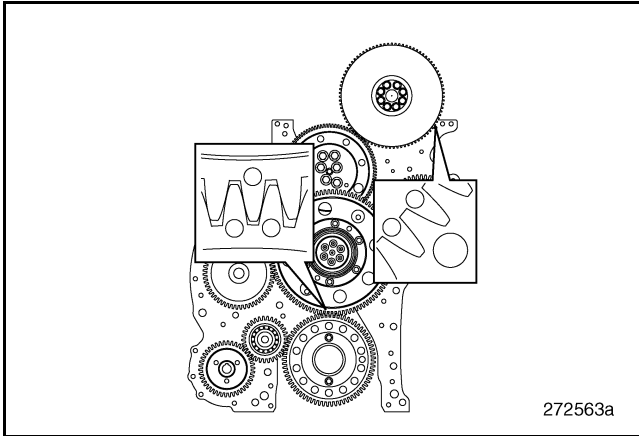

Figure 320 — Camshaft Gear Check
5. Align the punch marks on the camshaft gear teeth to straddle the alignment hole in the timing gear plate and install the camshaft gear without the damper as shown in Figure 320. Install the clamp plate tool, J 44514-1A, using **Position B** of the gauge plate tool to secure the camshaft gear to the camshaft and loosely install the two retaining bolts.